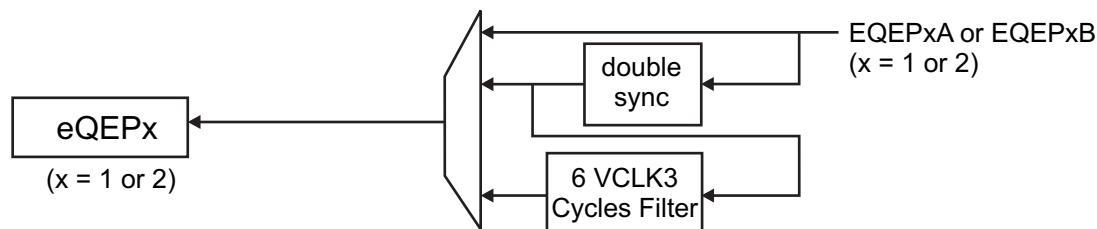

图 7-7. eQEPx Input Synchronization Selection Detail
A. For more detail on the eQEPx input synchronization selection, see 图 7-7.
图 7-7 shows the detailed input synchronization selection (asynchronous, double-synchronous, or double synchronous + filter width) for eQEPx.